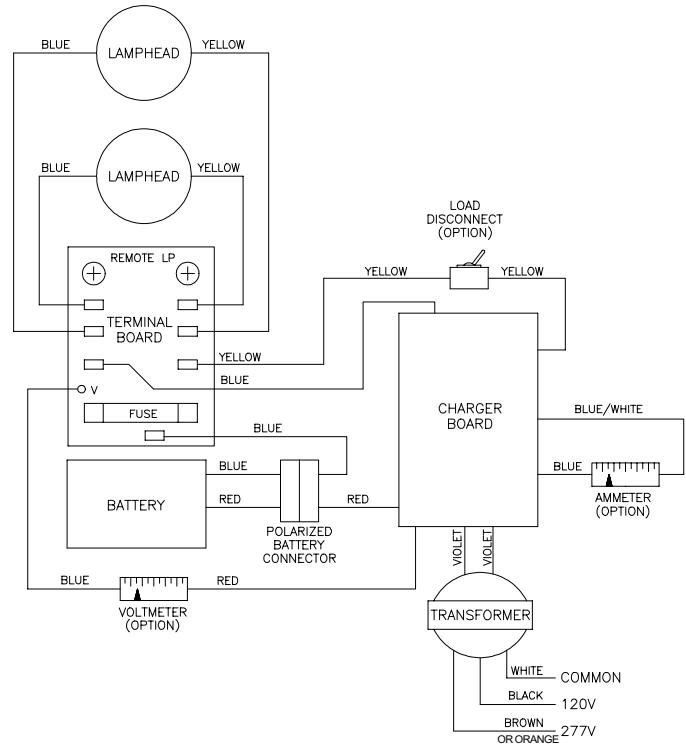
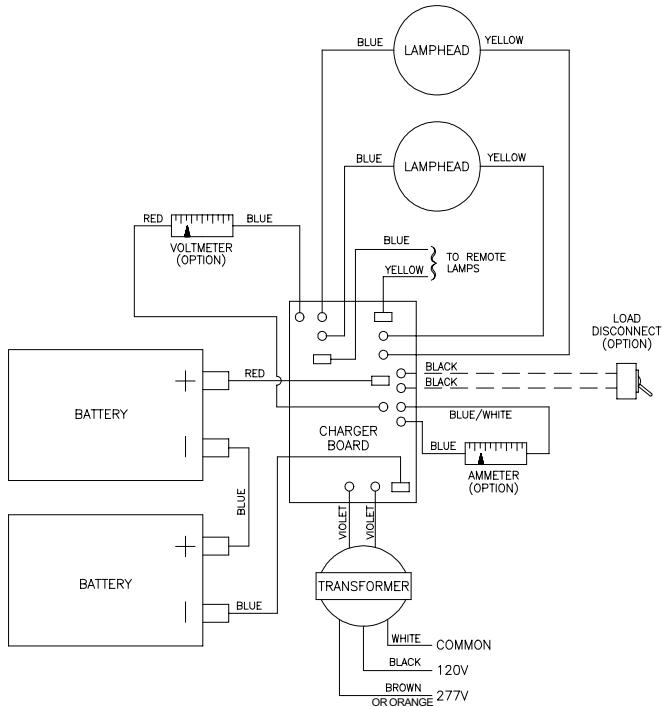

Figure2 Wiring Diagram ELU4N Only
Figure3 Wiring Diagram ELU4 and ELU8
2. **ELU4 and ELU8:** Connect lamp head leads to charger board ③ (see Fig. 3). Remote lamp head(s) are connected using remote lamp leads supplied in prepack. Connect remote lamp leads to charger board ③ . Connect stripped end of leads to remote leads using wirenut or other approved method.
ELU4N: Connect lamp head leads to terminal board ⑤ (see Fig. 2). Remote lamp head(s) must be connected to screw terminals on terminal board ⑤.
3. **ELU4N:** Connect charger board ③ lead(s) to terminal board (see Fig. 2).
4. Place battery ⑪ in housing ① on battery chassis ⑯. Connect remaining battery and charger board leads as shown in (Fig. 2 for ELU4N) (Fig. 3 for ELU4 and ELU8).
3. **LAMP REPLACEMENT:** If a lamp requires replacement, rotate bezel ⑥ counterclockwise, pushing bezel slightly toward housing ⑦. When bezel tab hits the stop on housing, pull forward and bezel will disengage. Lift out lamp, remove wire harness leads from lamp terminals and reconnect an identical replacement lamp. Slide bezel tabs in housing slots and rotate clockwise until tab hits stop on lamp housing.
4. **BATTERY REPLACEMENT:** Remove leads from battery terminals (ELU4 and ELU8) or unplug the polarized battery connector (ELU4N). Replace battery only with manufacturer's recommended replacement. Connect leads as shown (Fig. 2 for ELU4N) (Fig. 3 for ELU4 and ELU8).
5. **CHARGER BOARD REPLACEMENT:** Disconnect wiring as shown (Fig. 2 for ELU4N) (Fig. 3 for ELU4 and ELU8). Charger Board ③ is secured to battery chassis ⑦ by two nylon standoffs. Depress standoff flanges and lift board from chassis. Install replacement charger board and reconnect wiring as shown in (Fig. 2 for ELU4N) (Fig. 3 for ELU4 and ELU8).